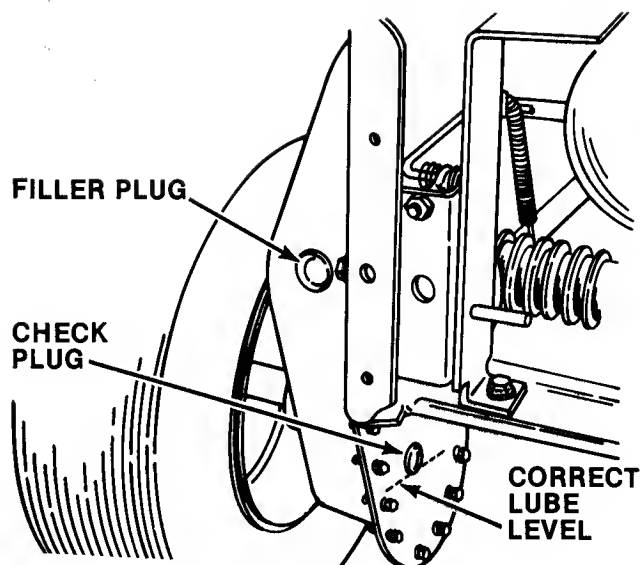

FIG. 12 - TRANSMISSION LUBE LEVEL
- TRANSMISSION DIFFERENTIAL: Remove check plug on inside of unit shown in figure 12 to check level of oil. Add Snapper #00 grease as needed thru upper fill hole to bring the level up to the lower edge of the check plug hole. Reinstall plugs after servicing.
- MOWER ATTACHMENT SPINDLE (S): Lubricate fitting for blade spindle bearings with two shots only of bearing grease once each year.